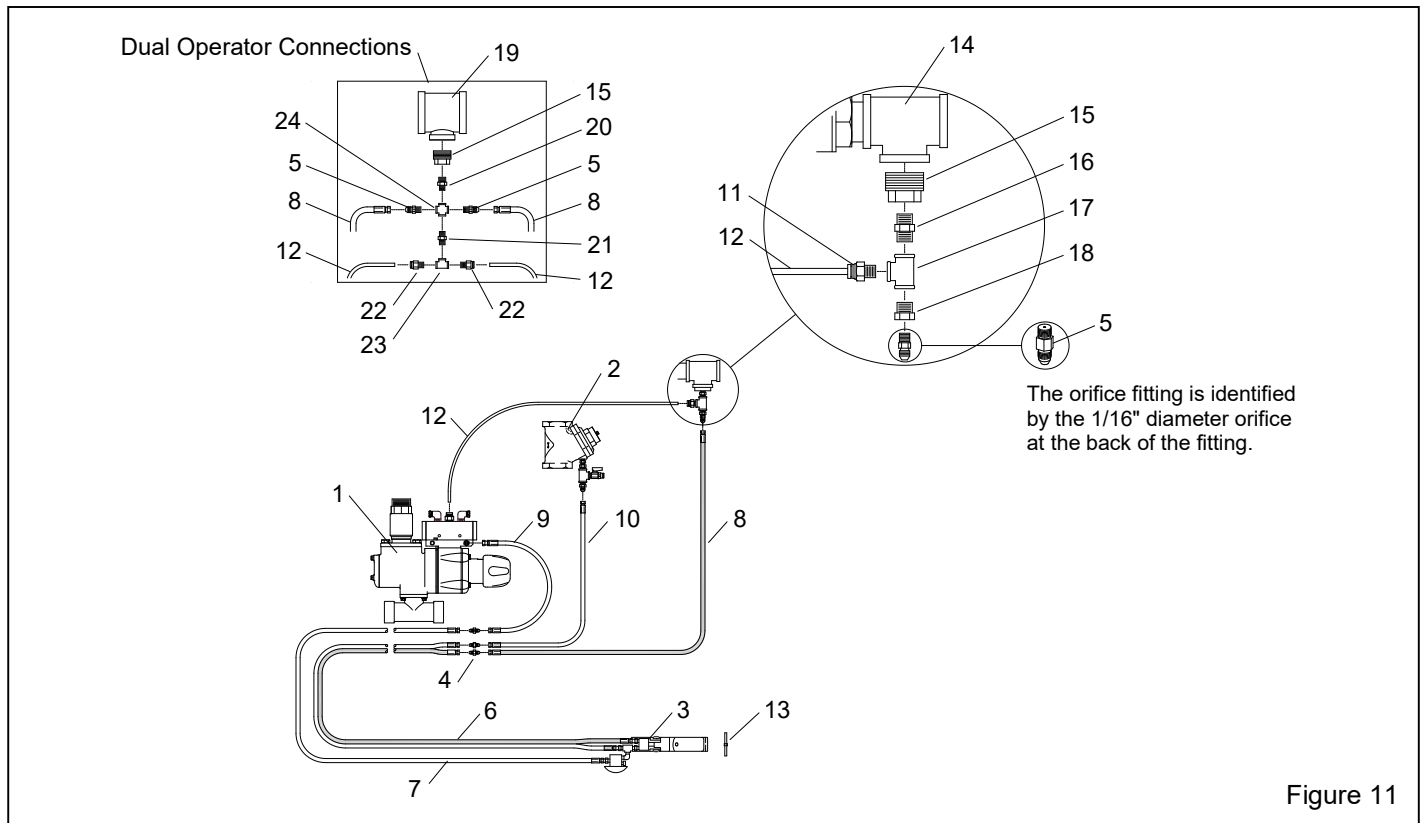

Figure 11
8.2 GritWizard Pneumatic Remote Control System Replacement Parts – Figure 11